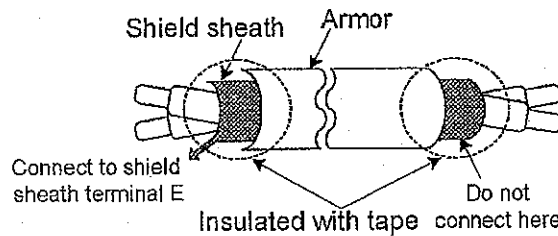

Fig. 3. Processing the ends of twisted-pair cables
- (1) Separate the control circuit wiring from main circuit wiring (R/L1, S/L2, T/L3, U/T1, V/T2, W/T3) and other high-power lines to avoid noise interruption.
- (2) Separate the wiring for control circuit terminals RA-RB-RC (R1A-R2B-R2C) (contact output) from wiring for terminals ①~③, A01, A02, GND, DO1, DO2, DOG 15V(or +12V, -12V), VIN, AIN, AUX, GND, IP12, IG12, A (+), A (-), S(+) and S(-).
- (3) Use the twisted-pair or shielded twisted-pair cables for control circuits to prevent operating faults. Process the cable ends as shown in Fig. 3. The max. wiring distance should not exceed 50 meter.